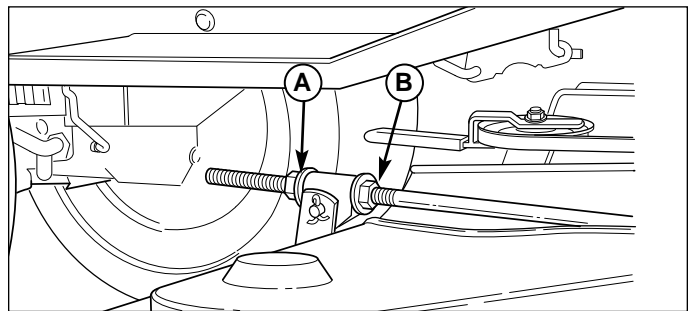

Figure 40. Front to Back Leveling
8. To raise front of mower deck, loosen front nut (B) and turn rear nut (A, Figure 40) against bracket. To lower front of mower deck, loosen rear nut (A) and the bracket will move backwards to lengthen rod.
9. Re-check the blade measurement then tighten the front nut (B) against the bracket to secure.